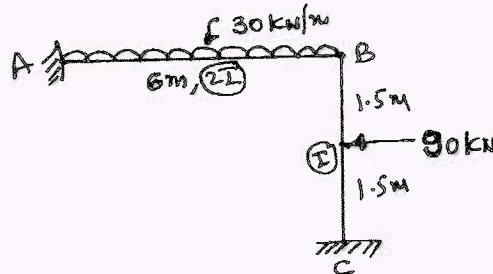

Fig.Q.8
- 8 Analyze the frame shown in Fig.Q.8 by using flexibility matrix method. Draw BMD. (20 Marks)